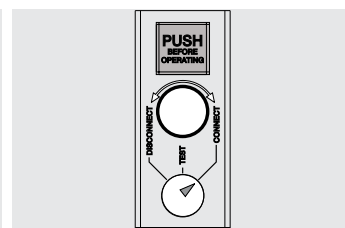

Figure 66
- circuit-breaker in CONNECT position (see Figure 66).